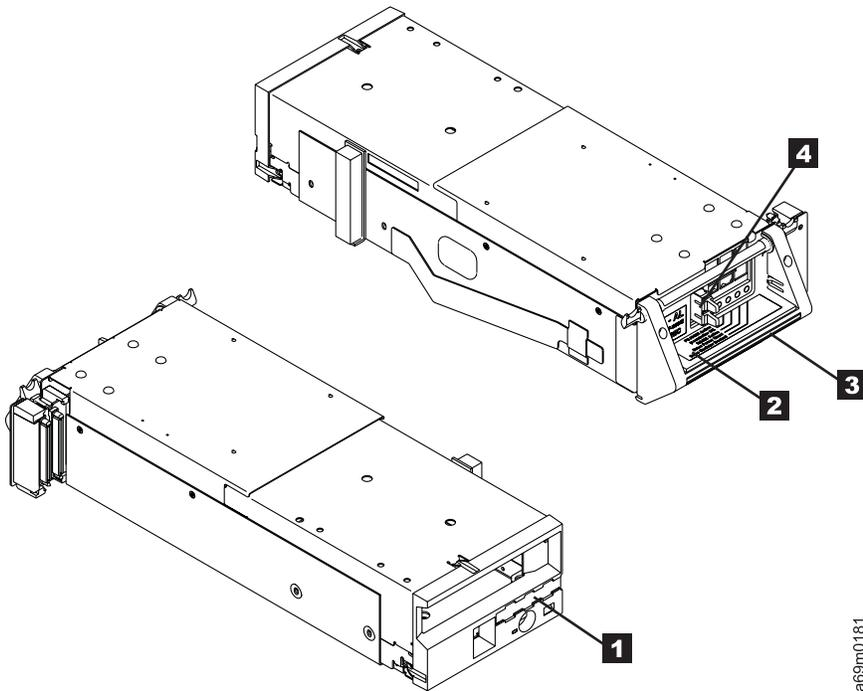

Figure 122. LTO Fibre Drive Canister
- If a logical library label **1** is installed on the old drive, remove it and install it on the new drive (see Figure 122).
5. Hold the locking lever **2** **up** to ensure the tabs on both sides of the lever will clear the frame (see Figure 122).
11. Reconnect the fibre cable **4** (see Figure 122 on page 608).